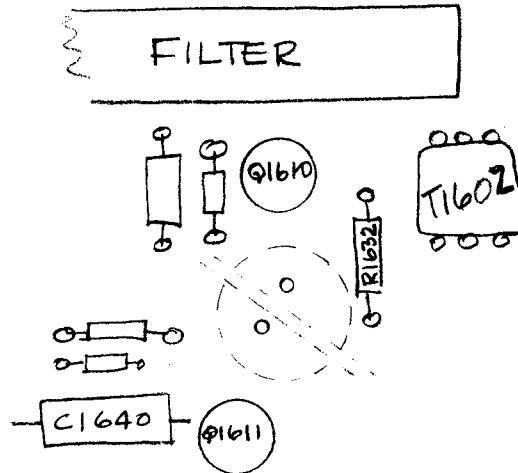

FIG. 1
6. With a #56 drill, make two holes next to R1632 (10K ohm) approximately $\frac{1}{4}$ inch center to center. (SEE FIG 1)